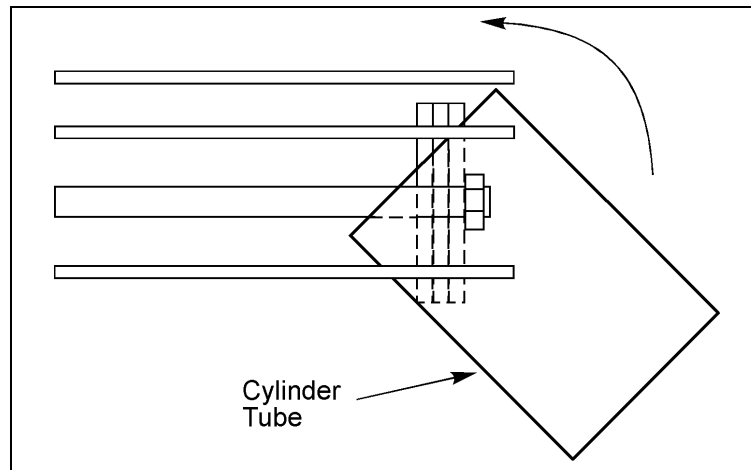

**Figure 2—Cylinder Parts Location**
2. Attach the isolation plate, then the cylinder head to the actuator. See Figure 2.